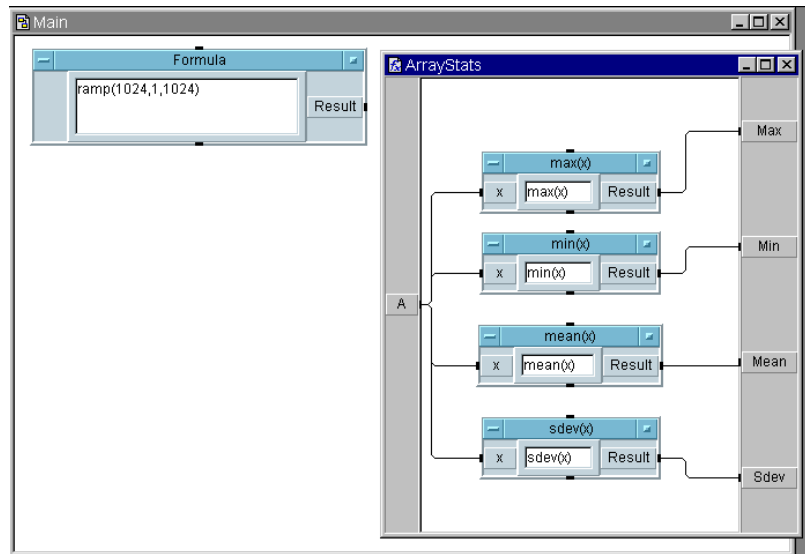

Figure 210 The Main and ArrayStats Windows
- d Place them in `ArrayStats`, and connect their data inputs to **A** and their data outputs to the appropriate output terminals. Make the `ArrayStats` window smaller to see both of the **Main** and `ArrayStats` windows. See Figure 210.